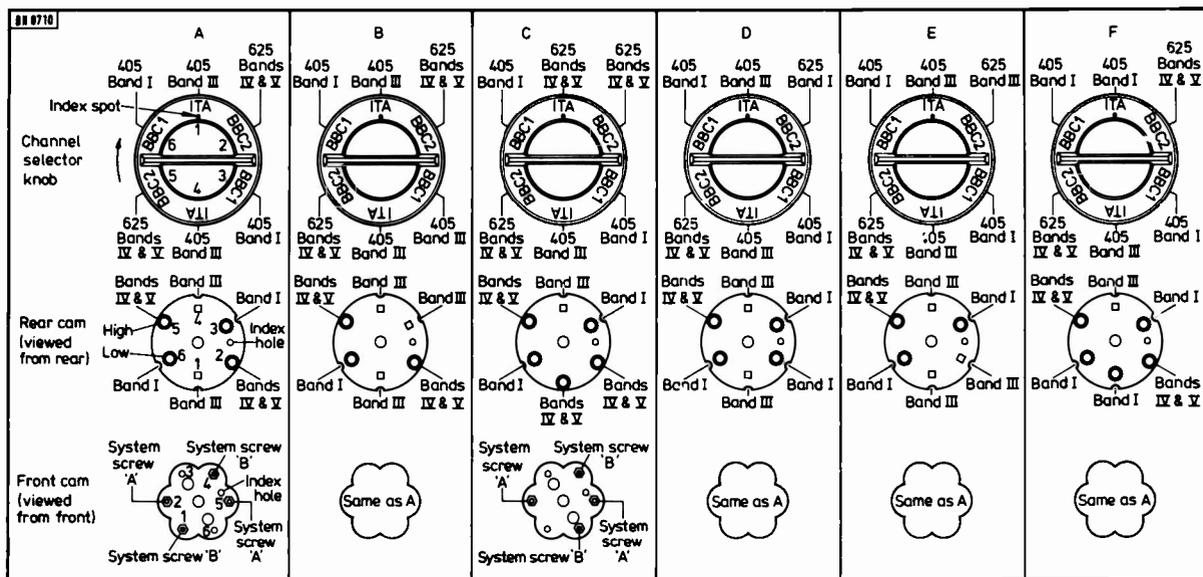

Fig. 5: How to alter the tuner band and channel selection.
quite simply by rotating through 180° or removing one of the cam buttons at the rear of the tuner and/or rearranging the position of the system screws on the tuner front cam. The cam buttons determine the Band coverage and the system screws the line system. A number of variations is shown in Fig. 5: A as despatched from the factory; B with BBC-1 converted to Band III; C with ITA converted to Bands IV/V; D with BBC-2 converted to Band I (625); E with BBC-2 converted to Band III (625); F with ITA converted to Band I. In each case the channel selector knob is viewed with the ITA position such that the small index spot is below the T at top centre and the two cams are in the same relative positions viewed from the rear and front respectively.
To convert A to C: Remove back cover, turn channel selector so that ITA (index spot) or pointer is at bottom centre then remove knob by depressing the spring-loaded key (accessible from inside the cabinet). With Fig. 5 inverted to correspond with the position of the tuner remove system screw B from position 1 and refit in position 6 through the knob aperture. Replace the channel selector knob and turn ITA (index spot) or pointer to top centre. Insert additional cam button in position 1 (of the rear cam) in the "high" position.